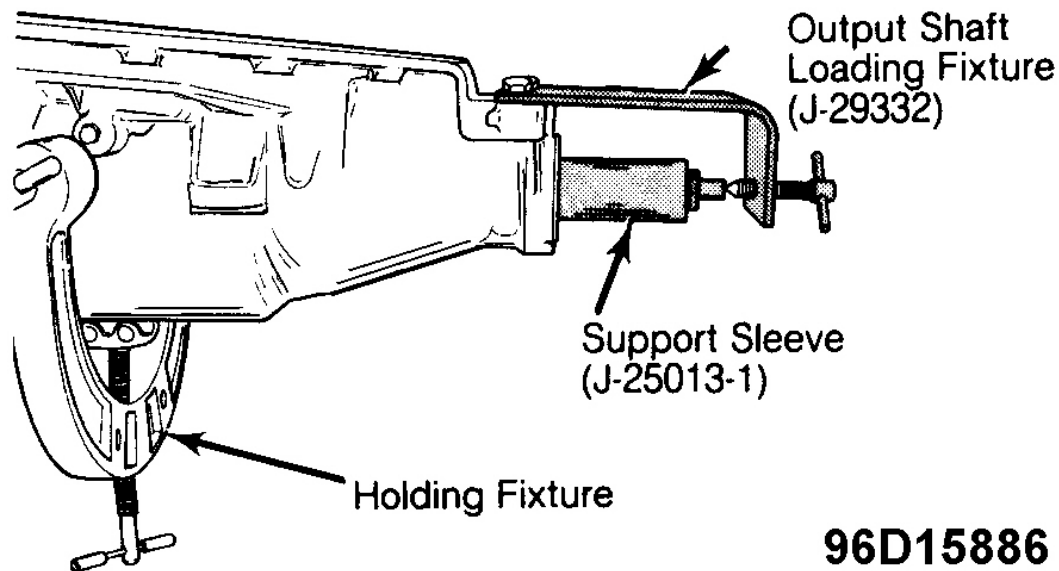

Fig. 9: Installing Output Shaft Loader
1. Install Output Shaft Loading Fixture (J-29332) and Support Sleeve (J-25013-1) on output shaft. See **Fig. 9**. Turn transmission to vertical position, pump side up.